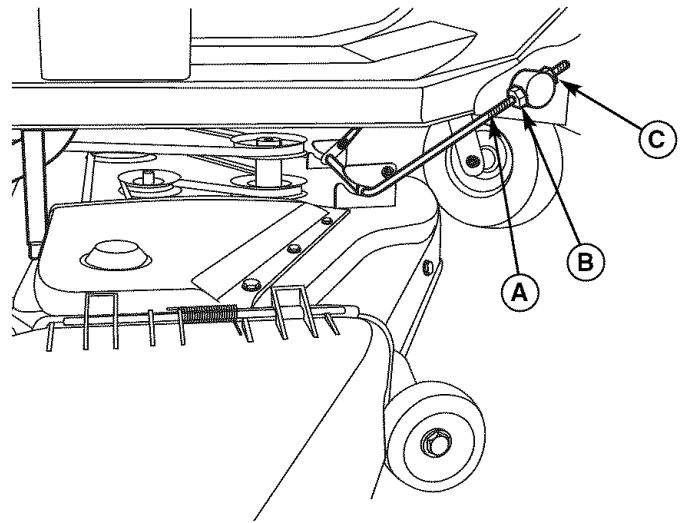

Figure 37. Front-to-Back Leveling
2. The front mower hitch rod (A, Figure 37) is used to adjust front-to-back leveling. To raise or lower the front of mower deck, loosen the two rear jam nuts (B) on both sides of the hitch rod (A). Adjust the front jam nuts (C) on both sides of the hitch rod (A) to adjust the deck level. When adjusted correctly, tighten the rear jam nuts (B) to lock hitch rod in place.